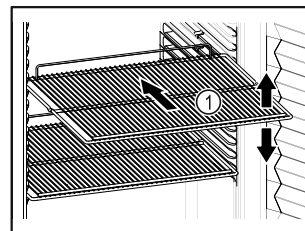

Fig. 55
- ❑ If there are adjustable shelves Fig. 55 (1), position them as required.